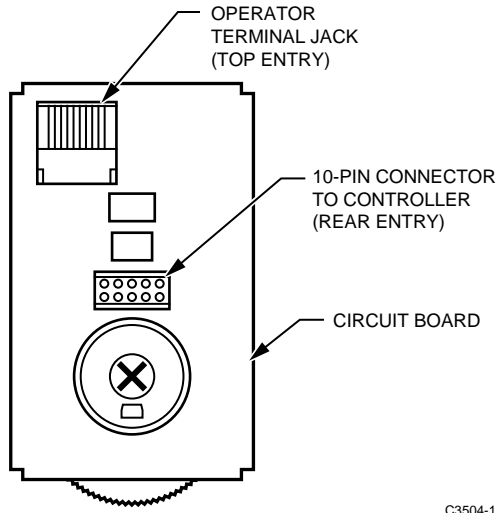

Fig. 2. Rear View of Space Sensor Showing Terminations to Space Sensor Jacks.
1. Mount the Space Sensor on a wall, mullion (1-7/8 in. [48 mm] wide minimum), or electrical box (see Fig. 2 and Table 2).
2. Connect the Space Sensor to the M-Cel with the required cable assembly by inserting one end of the cable assembly securely into the jack on the rear of the Space Sensor circuit board (see Fig. 2) and the other end into the M-Cel. Note that this connector assembly can be pulled through a 1/2 in. emt conduit with not more than one bend.